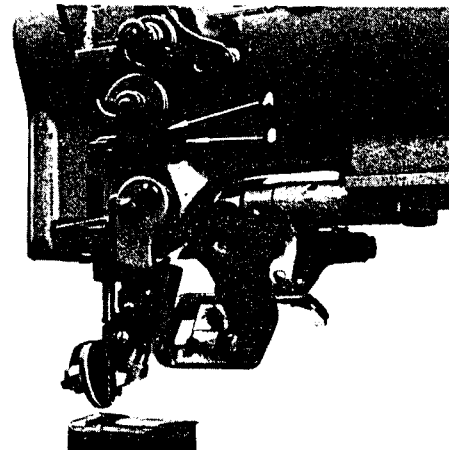

Fig. 17. Adjustments on Thread Controller
For more controller action on the thread, loosen the stop screw (A, Fig. 17) at the right of the tension and set the stop lower, and for less action set the stop higher, then tighten the stop screw (A).
To strengthen the action of the controller spring on the thread, loosen the tension stud screw (B, Fig. 17) at the right of the stop screw and turn the tension stud slightly to the left with a screwdriver, or to lighten its action turn to the right and tighten the tension stud screw (B).